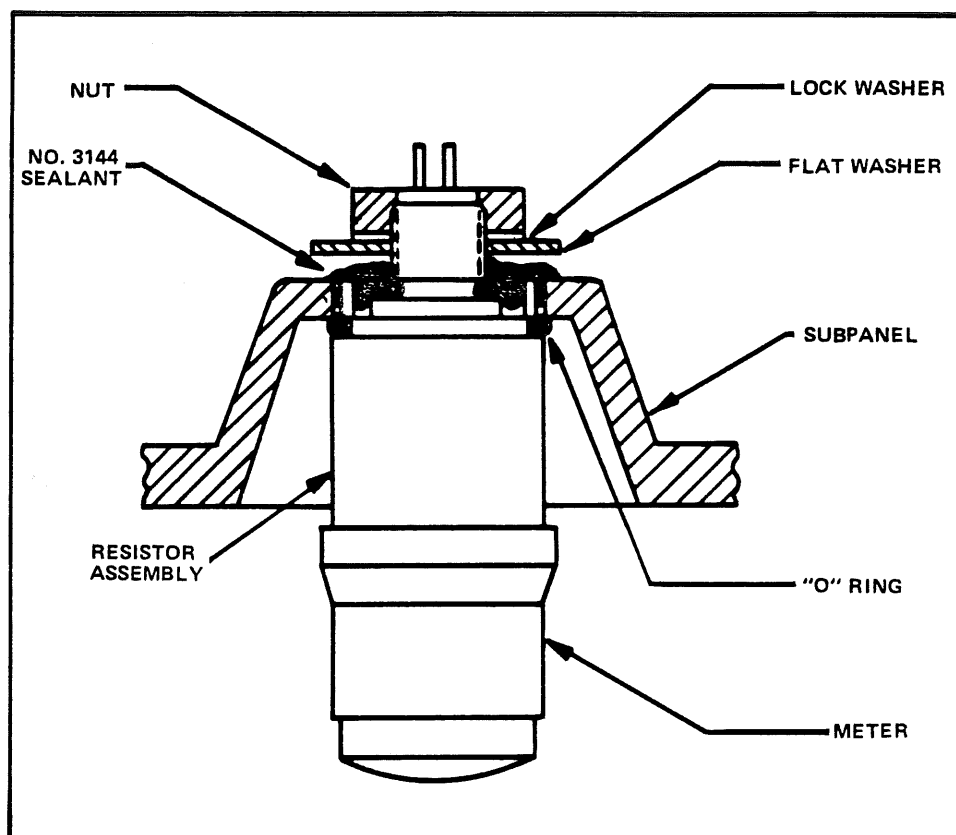

Figure. 16. Installation of Distance Meter.
STEP 19. Install the DISTANCE METER in the Front Panel (see Figure 16).
- (1) 1502 TPN 311-1755-01, MPL Item 2-44.
- (2) 1503 TPN 311-1755-01, MPL Item 2-46.
- (3) This variable resistor is listed in the Electrical Parts List as circuit number R0271.